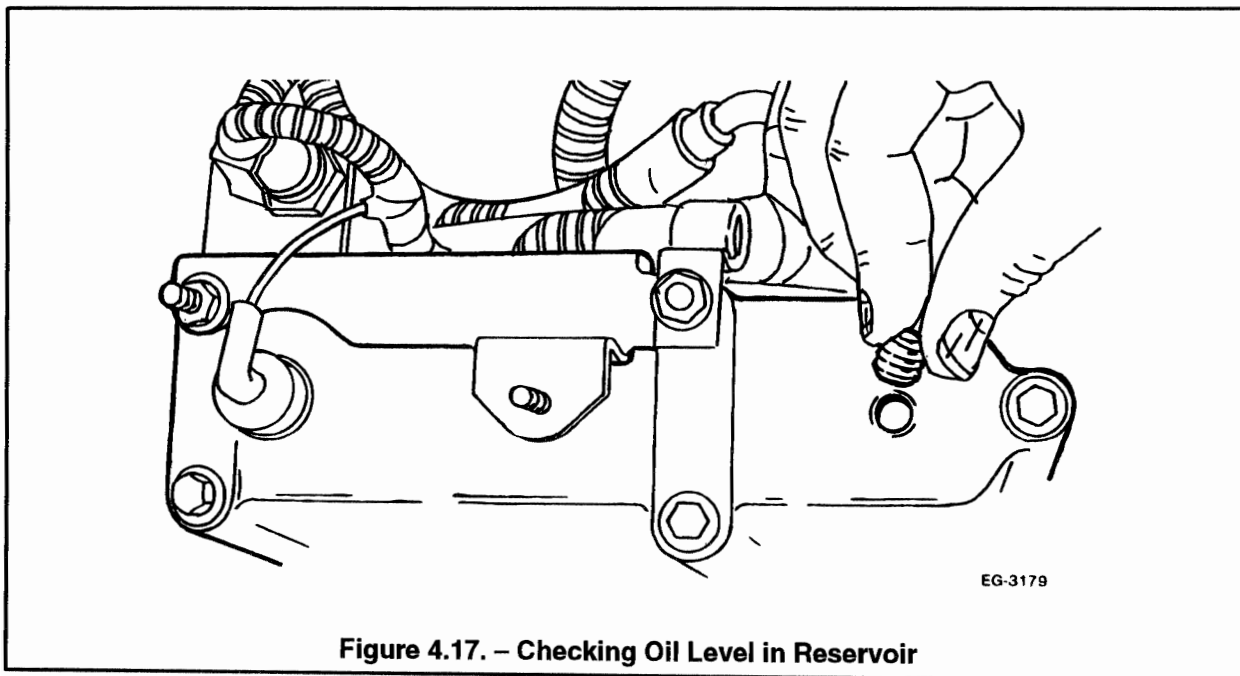

Figure 4.17. – Checking Oil Level in Reservoir
- Inspect oil level (**Figure 4.17.**) the next morning (prior to starting engine) to determine if leak down has occurred.